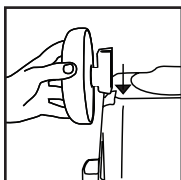

FIGURE 11
14. Slide axle housing into dovetail slot at rear of tank: axle housing is tapered and should slide into dovetail slot without excessive force. **FIGURE 11.** Tighten screw.